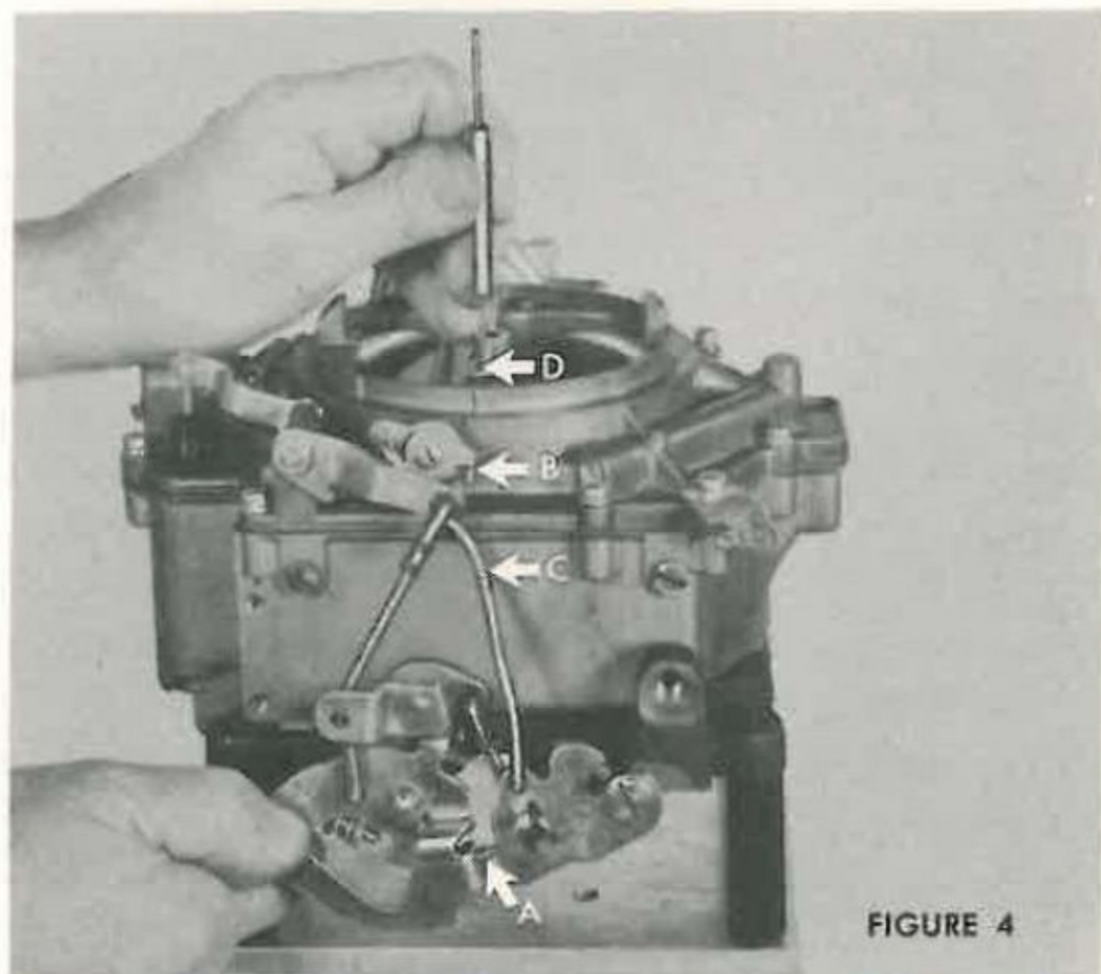
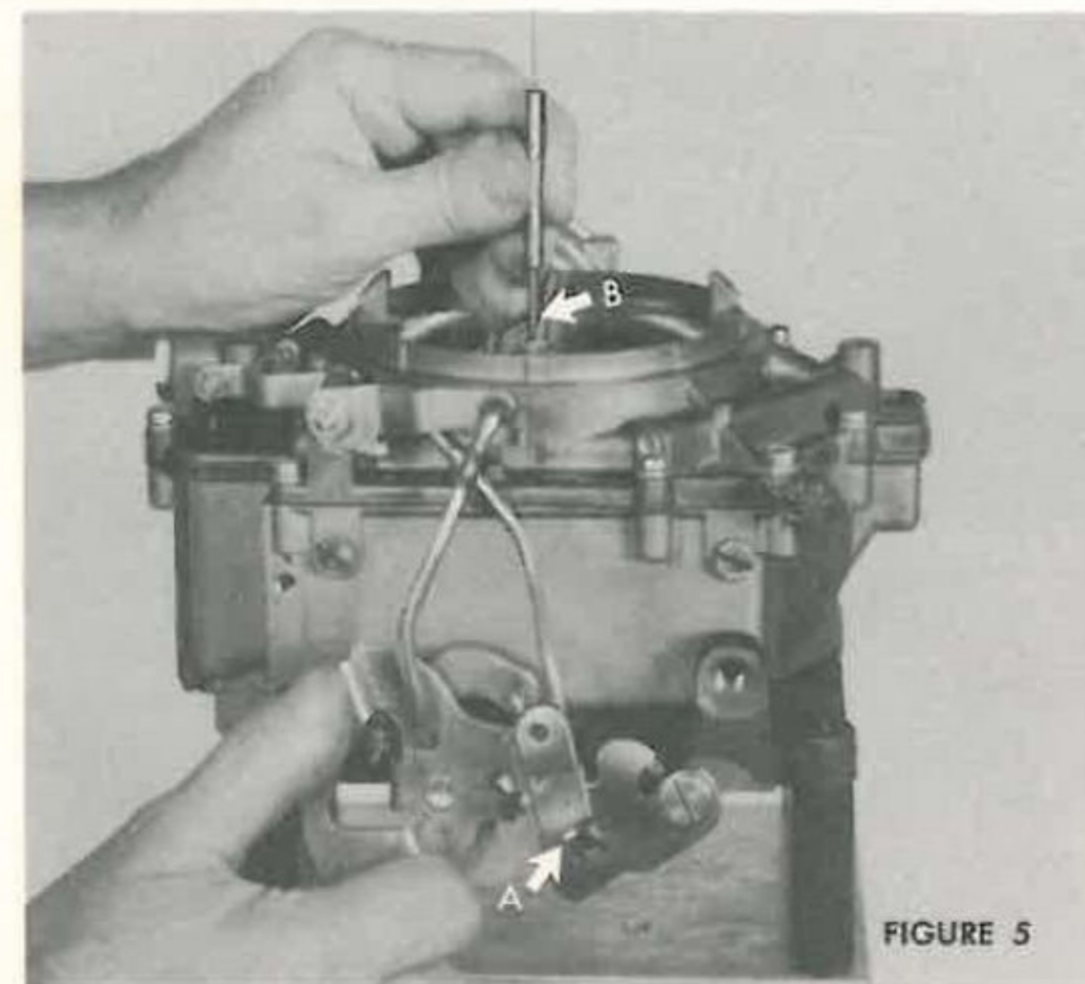

FIGURE 4
FIGURE 5
fast idle screw against the second step on the fast idle cam "A" Fig. 4, the side of the screw being against the side of the highest step. Be sure that the choke trip lever is in contact with the choke counterweight lever "B." With the fast idle screw and fast idle cam in this position, carefully bend the choke rod "C" to obtain a clearance of .053 (Gauge J-6056) between the top edge of the choke valve and the dividing wall of the carburetor air horn "D" Fig. 4.
4. **Unloader Adjustment:** With the choke thermostat cover set at index, and trip lever in contact with choke counterweight lever "B" Fig. 4, move the throttle lever in this position and carefully bend the tang "A" Fig. 5, on fast idle cam to obtain a clearance of .115" (Gauge J-6057) between the top edge of the choke valve and the dividing wall of the carburetor air horn "B" Fig. 5.